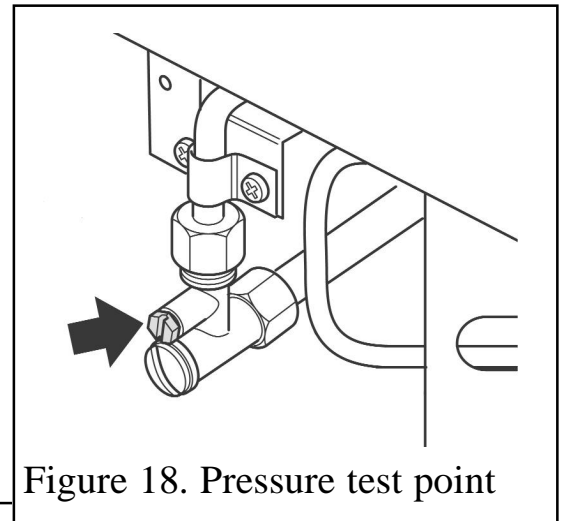

Figure 18. Pressure test point
1. Check the inlet pressure by fitting a pressure gauge at the test point. The test point is on the inlet ‘T’ connector (See figure 18). Check the pressure with the appliance alight and set at maximum output.